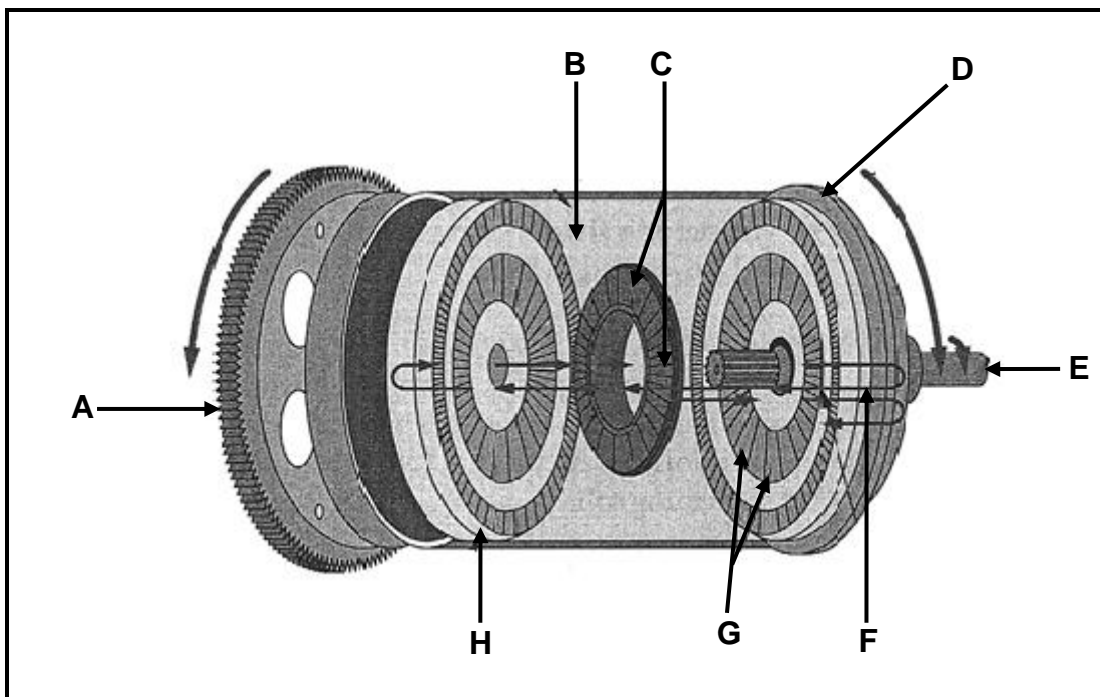

FIGURE 9.4
- 9.4 FIGURE 9.4 below shows the operation of a torque converter. Answer the questions that follow.